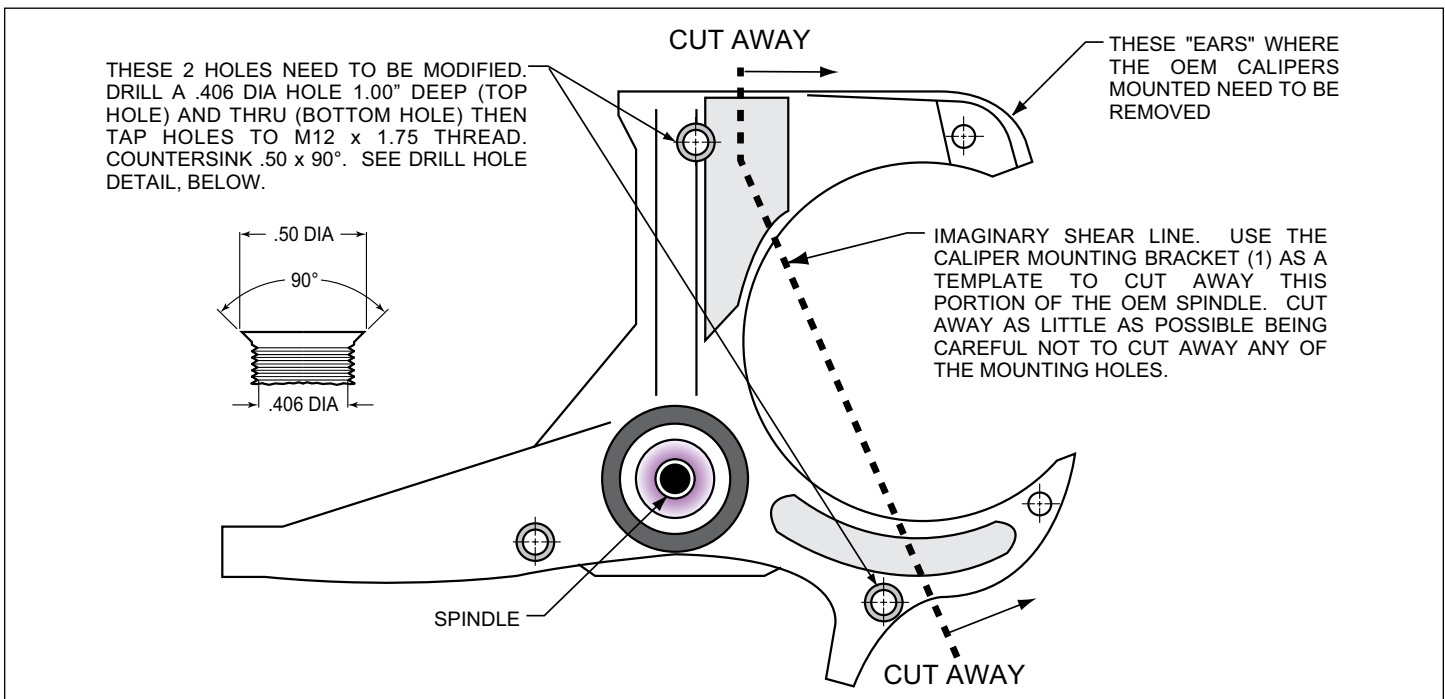

Figure 1. Steering Arm / Spindle Modifications
NOTE: These modifications should be performed by a qualified machinist and completed before assembly of the Wilwood disc brake kit begins. Refer to Figure 1 as necessary (numbers in parenthesis refer to the parts list). Only one view of the steering arm/spindle is shown, but the modifications need to be performed on both steering arm/spindles.
The two OEM holes that will be used to mount the caliper mounting bracket (1) need to be modified. Drill a .406 diameter hole, 1.00” deep (top hole), and thru (bottom hole), Figure 1, then tap holes to M12 x 1.75 thread. Countersink the holes to .50 x 90°. The “ears” that protrude to form a “C” shape need to be removed to facilitate the installation of the Wilwood kit. Using the bracket as a template, mark two cut marks on the steering arm. Remove as little as necessary from the “C” shape, being careful not to cut away any of the mounting holes required to bolt on the bracket.